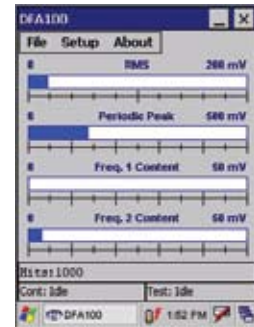

Figure 1 – Continuous
The continuous mode is used for surveying the apparatus and locating the primary source of the acoustic emission (AE) signal. The continuous measuring mode provides four scales of acoustic signal measurement: the RMS signal, peak signal, degree of modulation with fundamental frequency, and degree of modulation with second harmonic frequency. Figure 1 is an example of the continuous mode locating a PD source.